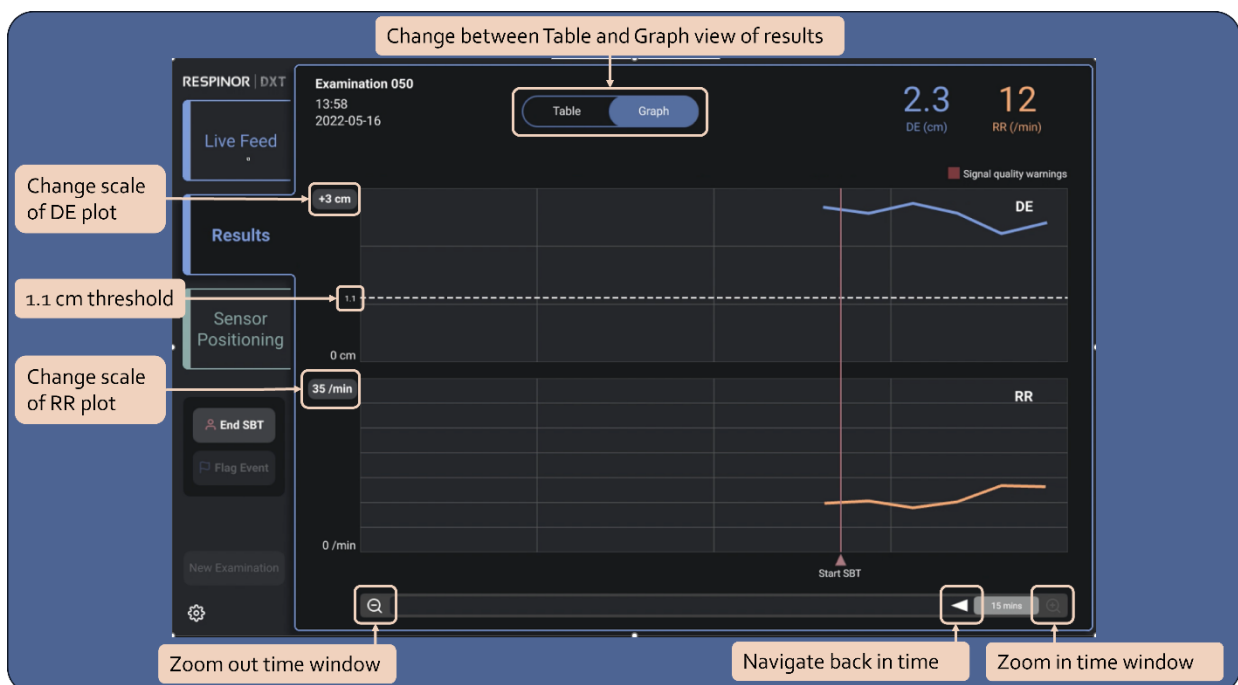

Figure 19. Results view Graph format.
- In the Results view, you can access the graphical display of the results by pressing the button at the top of the screen (Figure 19).
- After pressing the desired examination ID, a window containing the graph and table from the Results view (Figure 19 and Figure 14) will appear on the screen.